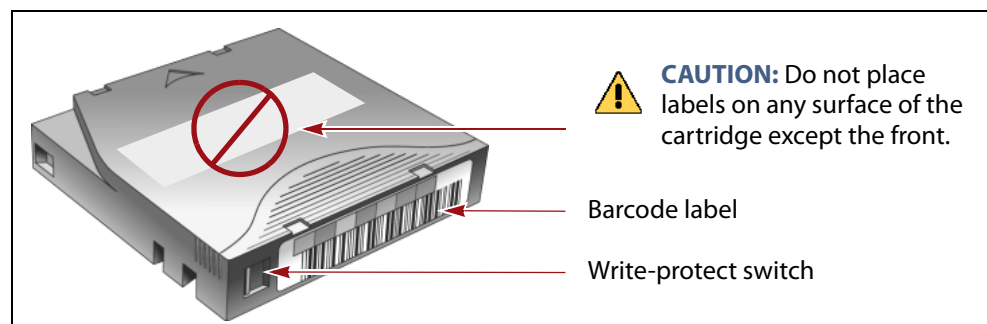

Figure 108 Attach barcode labels to cartridges and check write-protect switch setting (LTO cartridge shown.).
1. If your cartridges are unlabeled, prepare and affix a barcode label to each cartridge. Position each label in the indented area on the cartridge, as illustrated in Figure 108. See Barcode Label Specifications on page 505 for detailed information about barcode labels.
Do not place labels on any surface of the cartridge except the area shown in Figure 108. An improperly positioned label can become dislodged and damage the drive.